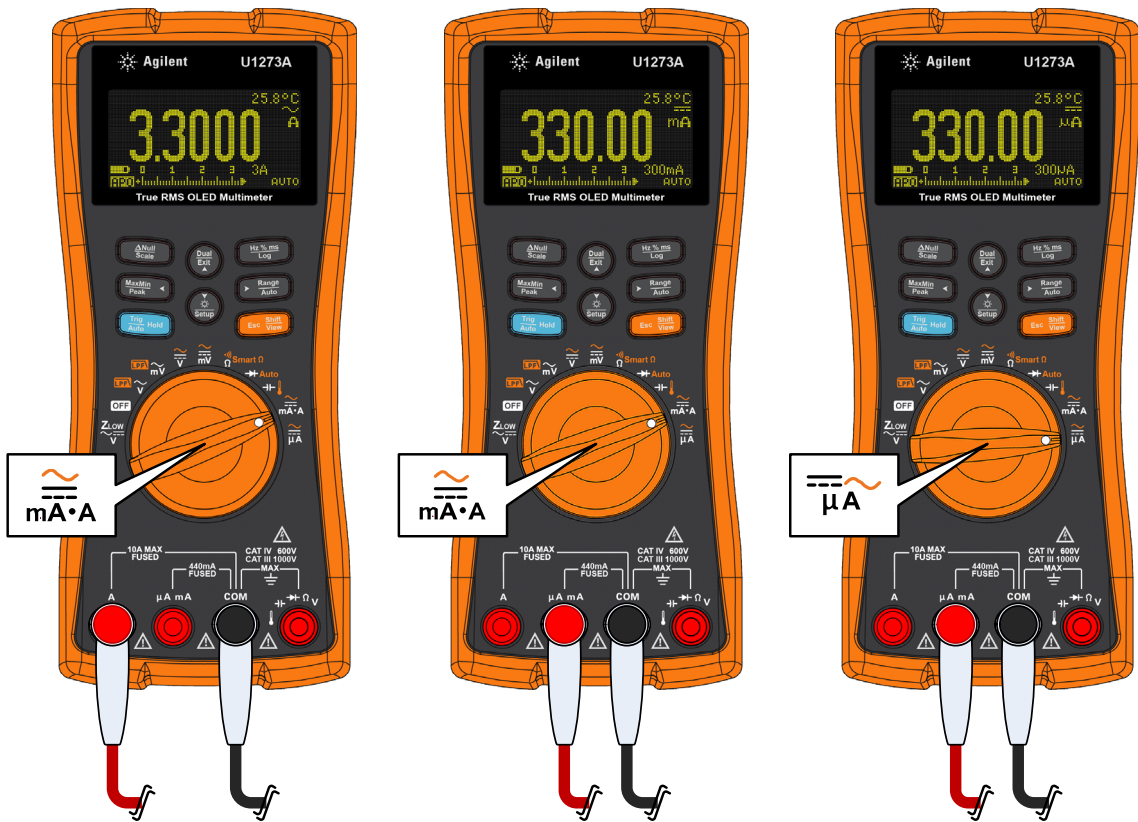

Figure 2-34 Current measurement setup
- To avoid blowing the multimeter's 440 mA fuse, use the **μA mA** terminal only if you are sure the current is less than 400 mA. See Figure 2-34 for test lead connections and function selection. Refer to the "Input warning" section for information on the alerts the multimeter uses when leads are not used correctly for current measurements.